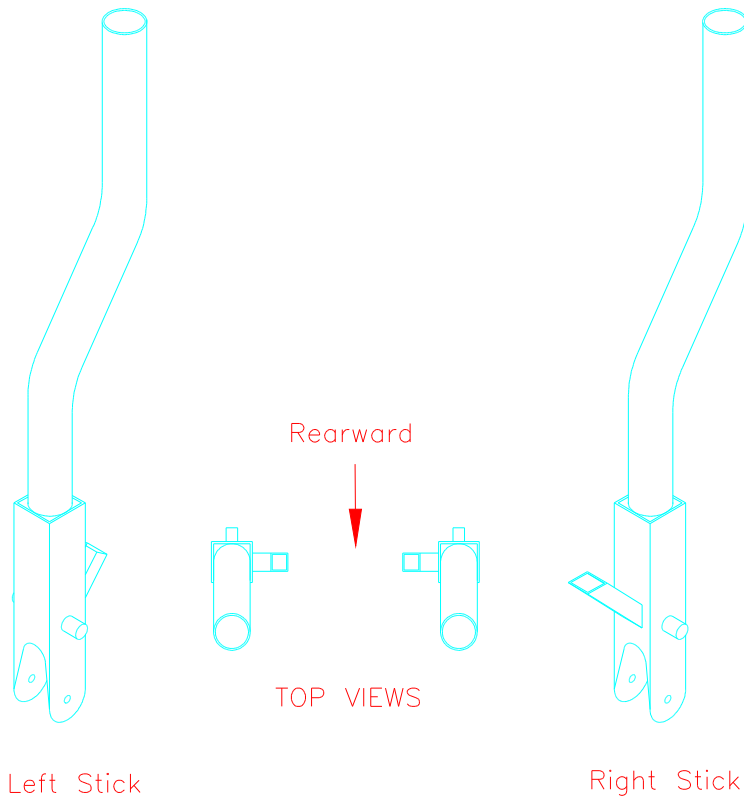

Figure 15.2.1
- 2) Install the control sticks (CC-5-1) in the control stick bases (CC-36). Make one left and one right stick. Figure 15.2.1.